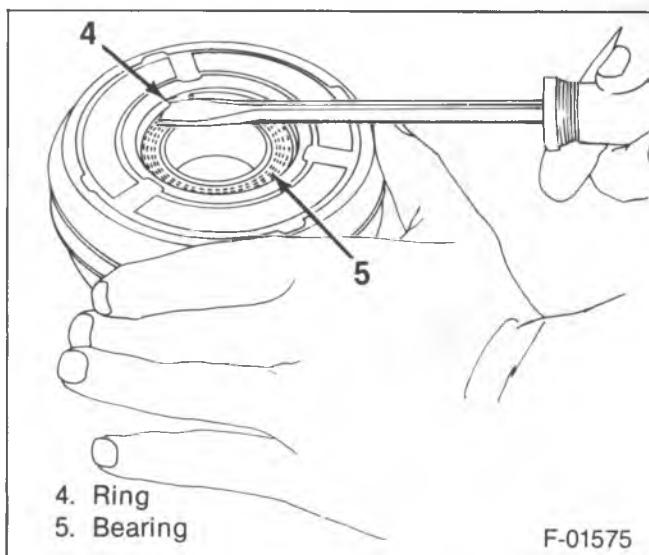
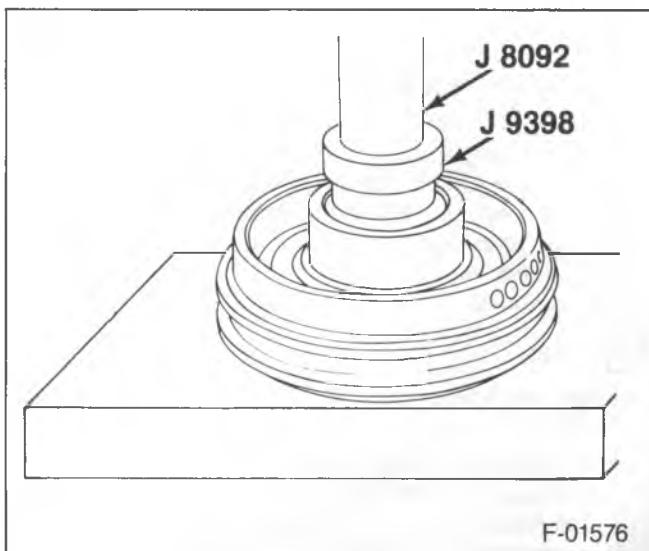

Figure 8—Removing the Pulley and Bearing Retainer Ring
Figure 9—Removing the Bearing from the Pulley
- 4. Bearing (5) from the pulley (6) (figure 8).
- Remove the retaining ring (4).
- Pulley (6) to J 21352 (figure 9).
- Drive the bearing (5) from the pulley (6) with J 9398 and J 8092.